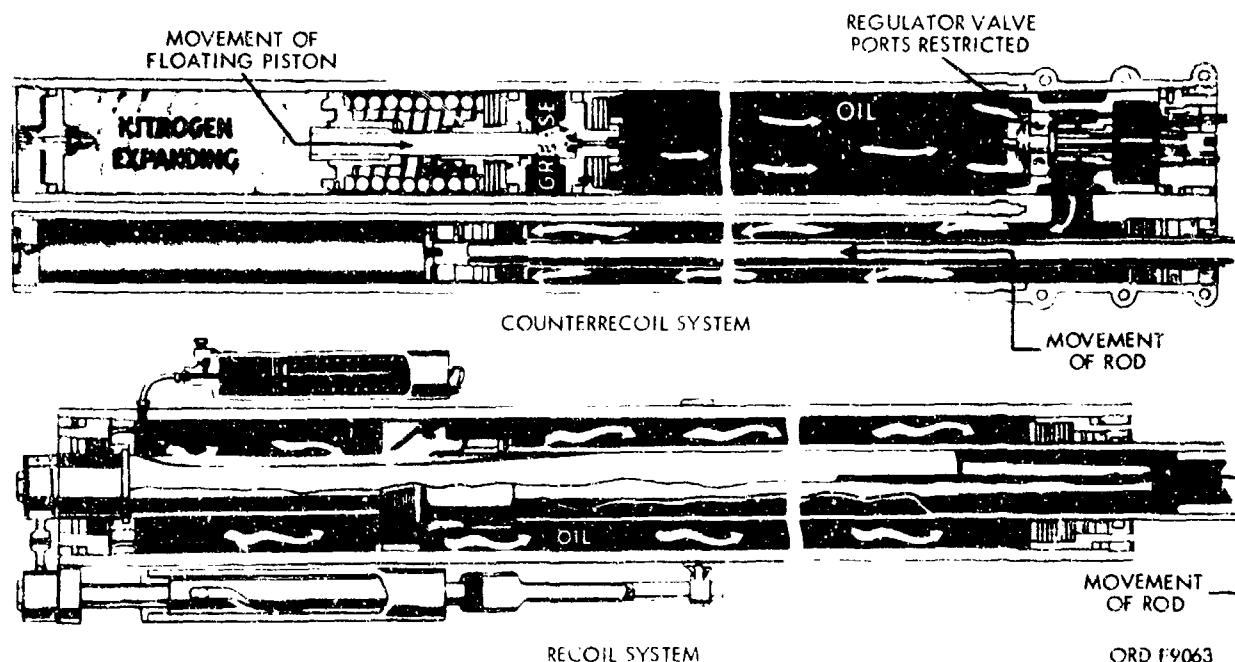

Figure 5-24. Recoil mechanism—counterrecoil action.
(1) When the force of recoil is overcome, the tube stops, the flow of recoil oil stops, and the spring-loaded valve in the regulator valve assembly closes itself. In the head of the recuperator regulator valve are two small counterrecoil controlling ports (fig 5-24), each of which is about 1/16 inch in diameter. These ports